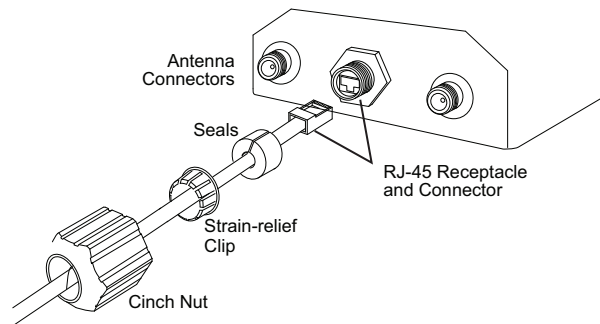

Figure 7. Watertight PoE Fitting
6. Slide the cinch nut over the strain-relief clip and seals until it engages the fitting threads. Tighten the cinch nut until it is fully seated, forming a watertight seal. See Figure 7.